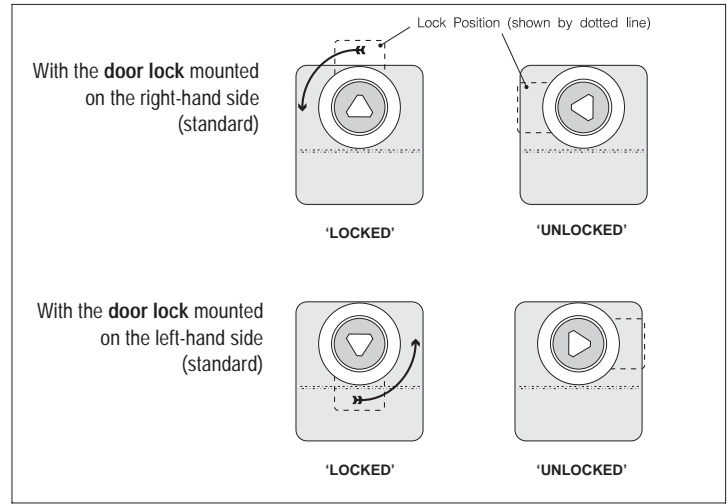

Fig.1-3: Door lock mounting positions.
5. Transfer the lock and finger plate to the opposite side of the door in place of the hole plug (which should be transferred to the vacant hole). Ensure that the lock is orientated correctly before fixing (see Fig.1-3).